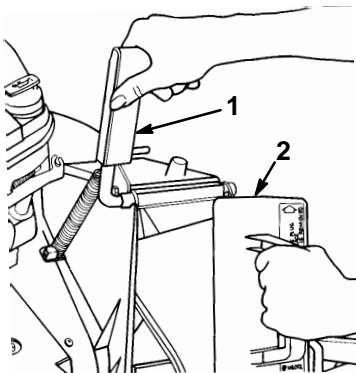

Figure 3
1. Open the discharge door by pulling forward on the handle and moving it rearwards (Fig. 3). Hold the discharge door handle to prevent the spring-loaded door from closing while inserting the plug.
2. Since the plug is slightly wider than the discharge tunnel opening, rotate the plug clockwise slightly while inserting it (Fig. 3). Make sure the arrow on the plug decal is pointing upwards.